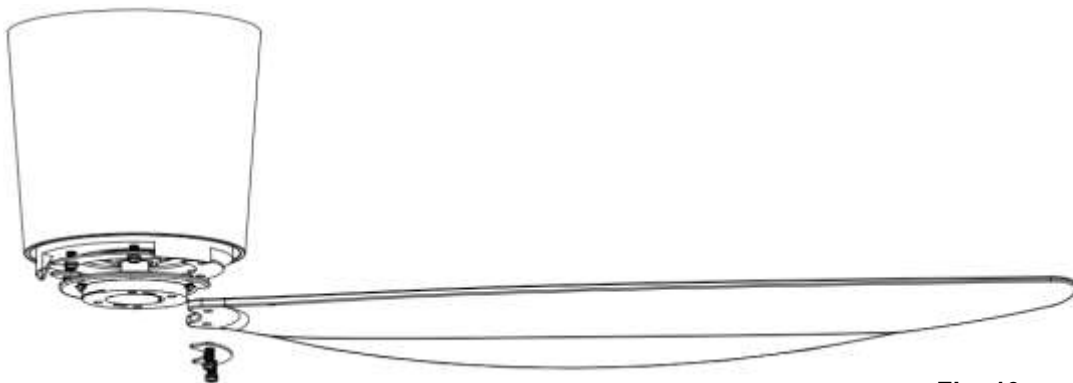

Fig. 10
BLADE ATTACHMENT (Fig.10)
2. Orientate the blade Support plate and fan blade onto the fan assembly (Fig.10)
Mount the fan blade onto the fan assembly using three blade screws with lockwashers in step 1, (Fig.10). Ensure all screws are tightened evenly to reduce the chance of warping or unbalancing. Take care not to over tighten the screws, as this can damage the blades